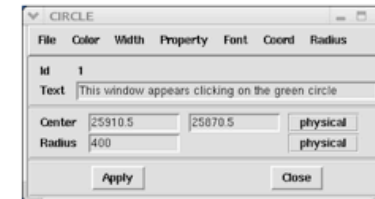

Fig.2: Selection region properties window, popped-up by double-clicking on the region in the main `ds9` window
6. Double-click with the cursor on the defined region. A window pops up, showing the properties of the region (Fig.2). Write down the coordinates of the Centre (25910.5, 25870.5) and the Radius(400).